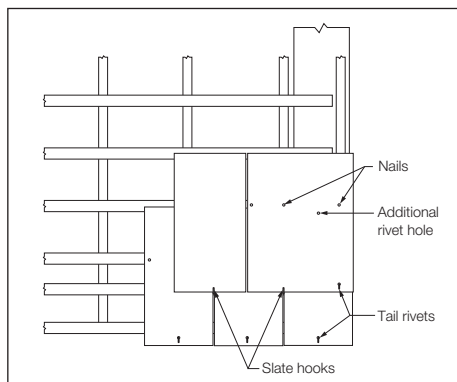

Fig. 11
- 5 At the verge on the course above install the first full length slate-and-a-half slate, by drilling 3 no. 4mm nail holes on the batten line for shoulder nailing and two additional 4mm holes for the copper disc rivets to secure the tail of the slate and that of the slate above (Fig. 11).